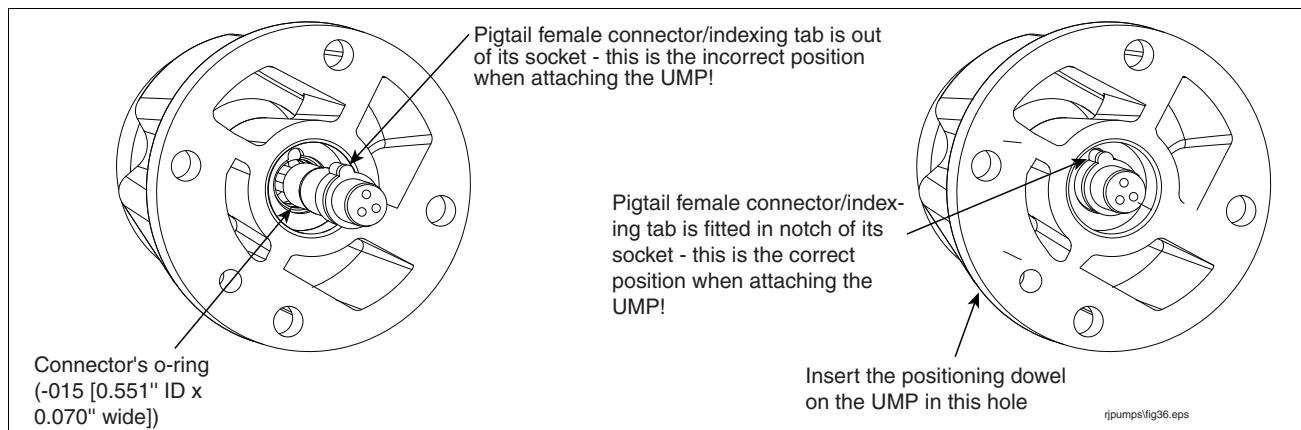

Figure 7. Verifying Pigtail Female Connector Is Seated Properly
1. Visually inspect the pigtail connector in the end of the discharge head. Be certain the pigtail connector is seated in its socket and its index tab is in the socket's notch (see Figure 7).
3. Align the UMP positioning dowel insert in the proper hole in the discharge head (see Figure 7) and push the UMP into position using hand force only. The UMP should be snug against the discharge head prior to installing the UMP retaining bolts.